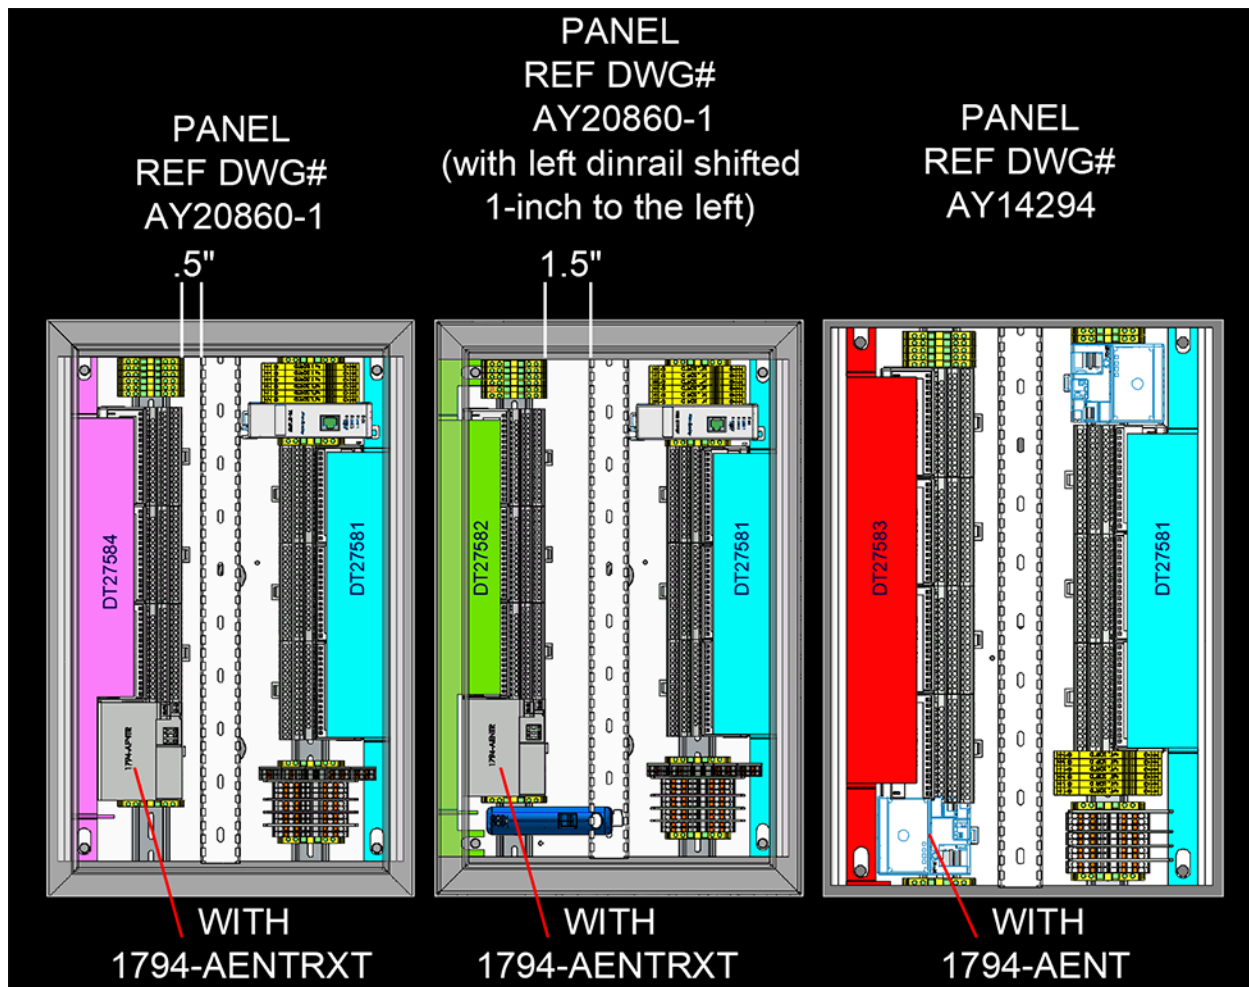

Figure 2: Bracket options
One bracket is required for the left PLC rack and a second bracket is required for the right PLC rack. Refer to Table 1 on page 3 for the applicable part numbers. Figure 2 on page 2 identifies the enclosure type and corresponding bracket configuration.
There are two types of FLEX I/O Adapters installed in the PLC panels (See Figure 2 on page 2):
Refer to Figure 2 for the following steps:
2. If you have FLEX I/O Adapter model 1794-AENTRXT, there are two options. The difference between these two options is the distance from the edge of the terminal block (mounted on the leftmost DIN rail) to the cable duct (see Figure 2 as reference).
3. Remove power from the enclosure and measure the distance from the edge of the terminal block to the cable duct as indicated in Figure 2 on page 2.
- From Table 1, select two brackets (left and right) corresponding to your AENTR module and distance from the edge of terminal block to the cable duct. Refer to Figure 2 on page 2 for details.
3. Install the first bracket in the required location. See Figure 2 on page 2 for reference.